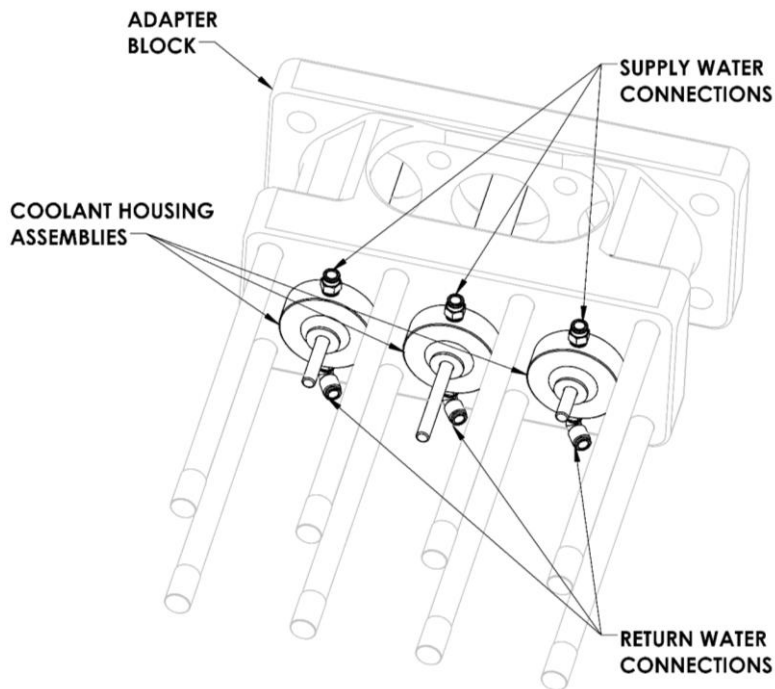

Figure 36 Removing the Coolant Housing Assemblies
1. **Remove** the coolant housing assemblies. (See **Figure 36** below.) To do this, **slide** them forward until they clear the end of the plungers. The coolant housing fits snugly to the bore in the adapter block and may be difficult to remove. **Use** both the top and bottom fittings of the coolant housing to **rotate** the assembly while removing it. During removal, **keep it aligned** with the bore.
1. Remove the coolant housings. (See **Figure 36** on page 40.)